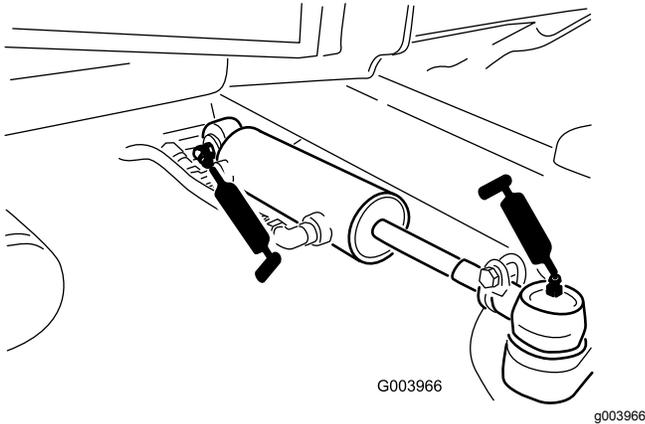

Figure 78
- Steering-cylinder ball joints (2) (Figure 78)